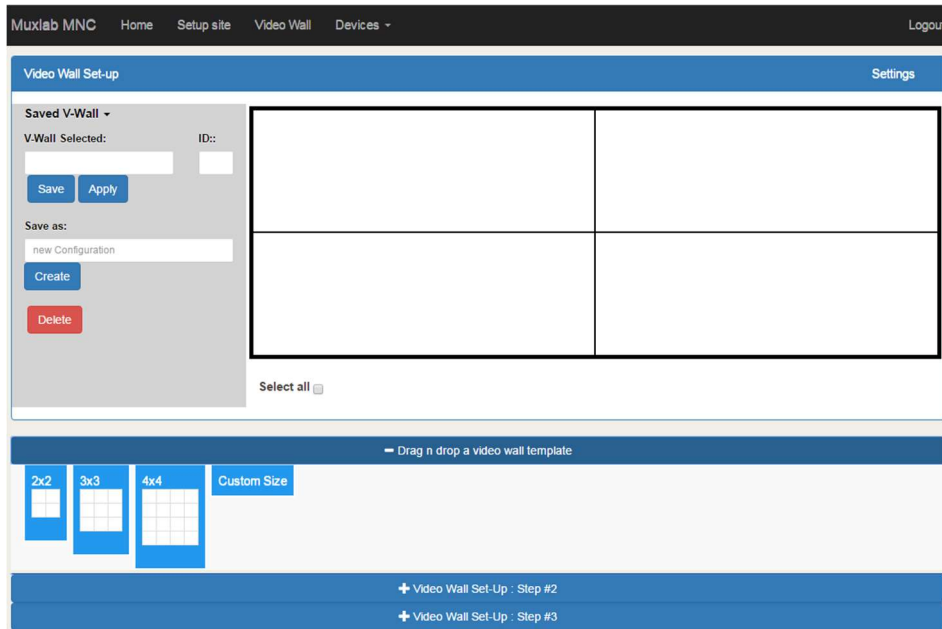

Figure 256: Video Wall Tab – Newly Created 2x2 Video Wall
- c. Once created, the display panel shows an empty (unpopulated) video wall consisting of 4 monitors (Figure 256).